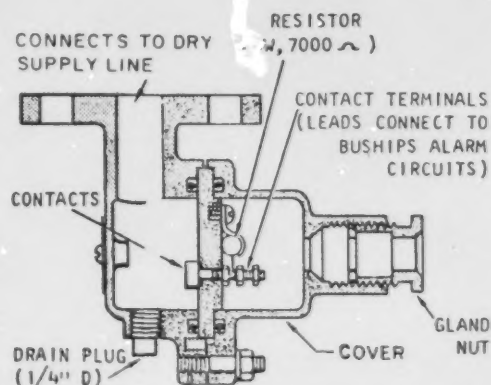

Figure 3-52.—Sprinkling system water switch SIZ 2.
On a periodic basis, sprinkling system alarm circuits should be tested. These tests involve checking the electrical continuity of the switch circuits. The leakage alarm (water switch) shown in figure 3-52 is activated by water. When water enters the switch housing, the contacts of the switch are shorted and the alarm is energized. To test this type of switch, proceed as follows:
4. Remove drain plug on water switch (fig. 3-52) and place syringe stem flush against the drain opening. Slowly squeeze the syringe to force enough water into switch housing until the two contacts are shorted. This will energize the leakage alarm located in the ship's damage control central.